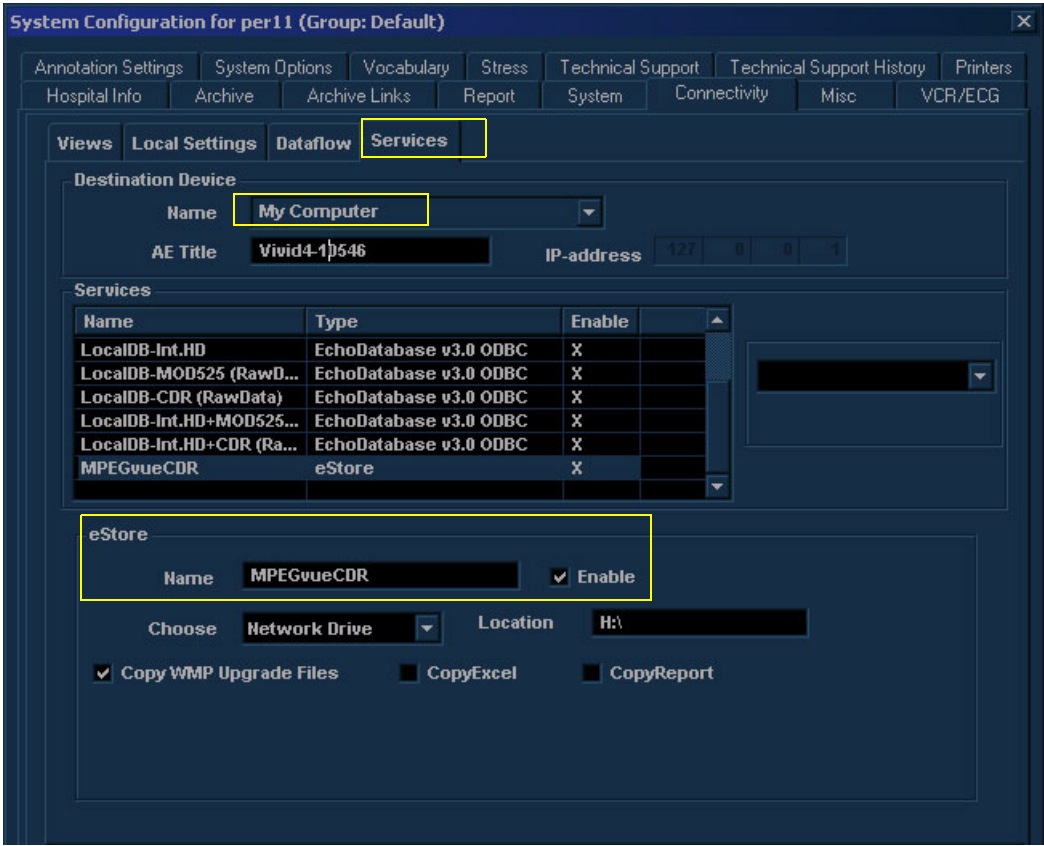

Figure 3-37 Setting up Remote Server for MPEGvue
- 5) Enable any other remote server, as required (for example, Services, My Computer, select **MPEGvueCDR** as shown in Figure 3-37).